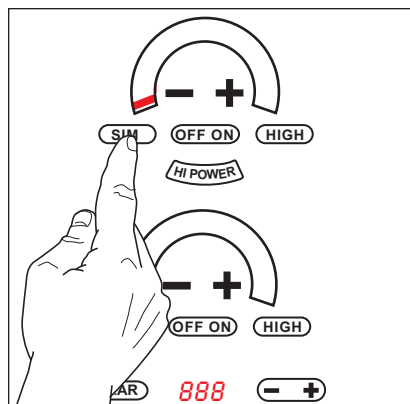

Figure 3-12 Press “SIM”
3. Touching “SIM” activates 1 Power Level Indicator-LED with a power level equivalent to 1. (See Figure 3-12)